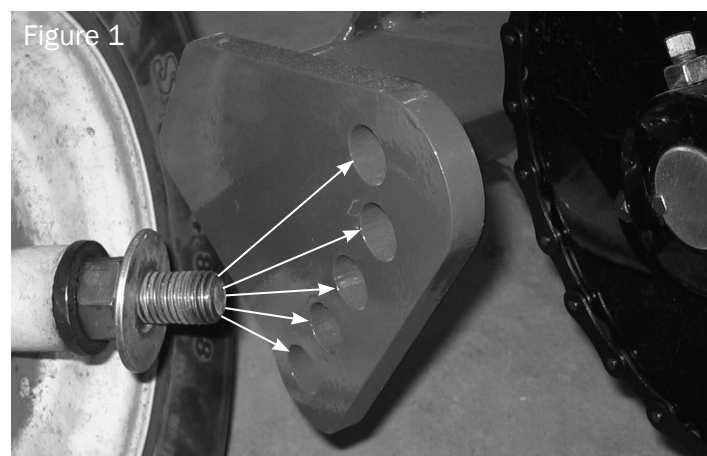

Figure 1
- Raise or lower pickup, Figure 1.
- Remove the nut on the bolt which holds the gauge wheel on the pickup and place bolt in the desired location, Figure 1. Tighten all nuts securely, ensuring that the wheel turns freely.